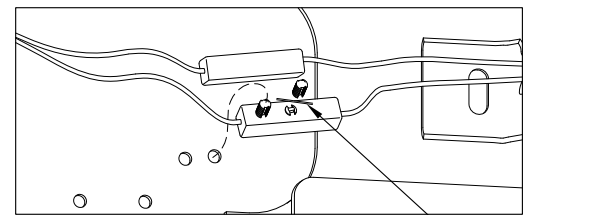

FIGURE C7: View looking at the inside of the Driver Side Frame.
- 4. Move wire plug.** On some truck models a small wire plug will have to be moved in order to install the U-Bolt. Pull the wire bracket from the frame and cut one of the plastic ratchet fasteners as shown in figure C7. Once the U-bolt is installed plug the remaining plastic ratchet fastener into the hole where the cut ratchet fastener was in the original installation.